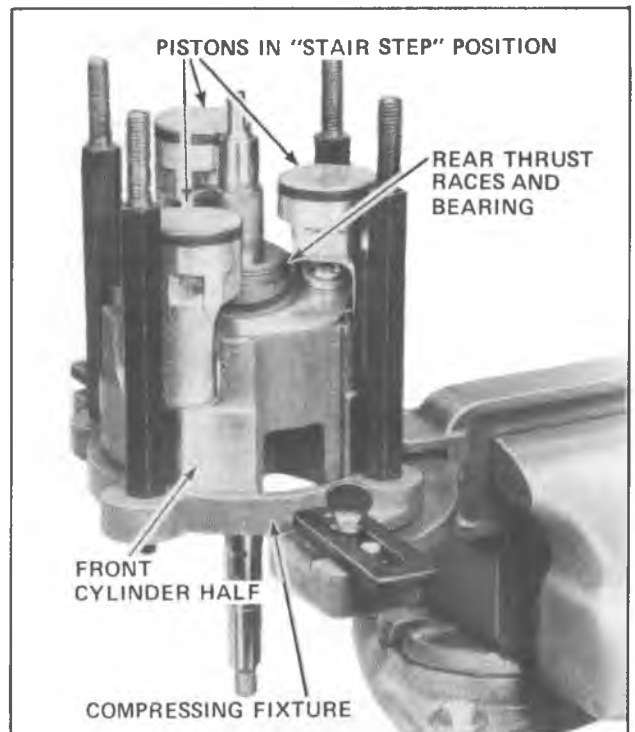

Fig. 55--A-6 Pistons Positioned in Stair-Step Arrangement
6. Now rotate the shaft to position the pistons in a stair-step arrangement; then **carefully** place the rear cylinder half over the shaft and start the pistons into the cylinder bores (Fig. 55).